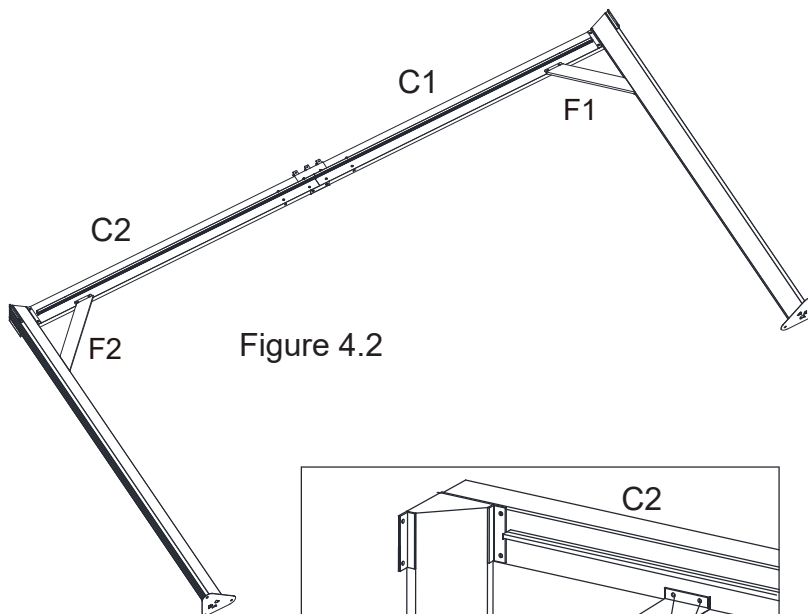

Figure 4.2
4.2: Repeat for opposite side Lintels (C1/C2) and Corner Posts (A). See Figure 4.2.